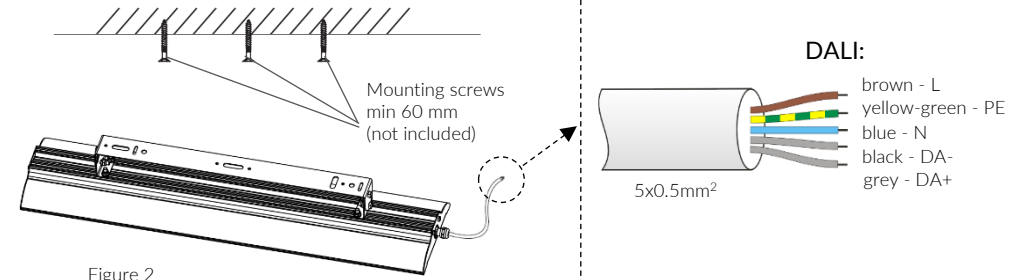

Figure 2
3. Alternatively surface mounting can be done using the URO HERMETIC PLUS adjustable bracket (Fig. 2)